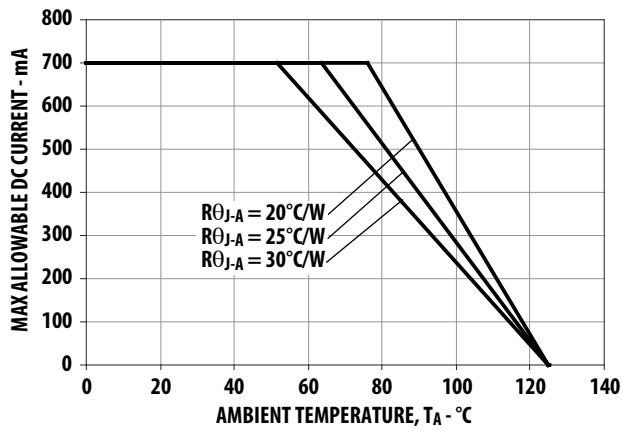
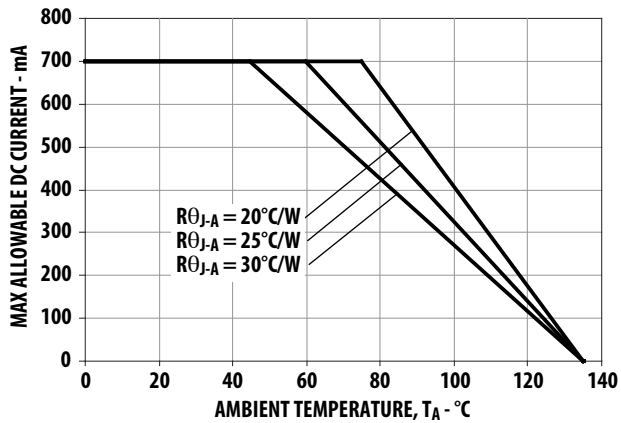

Figure 7. Maximum Forward Current vs. Ambient Temperature.
Figure 17. Maximum Forward Current vs. Ambient Temperature.
1. Derate linearly based on Figure 7 for AlInGaP and Figure 17 for InGaN.